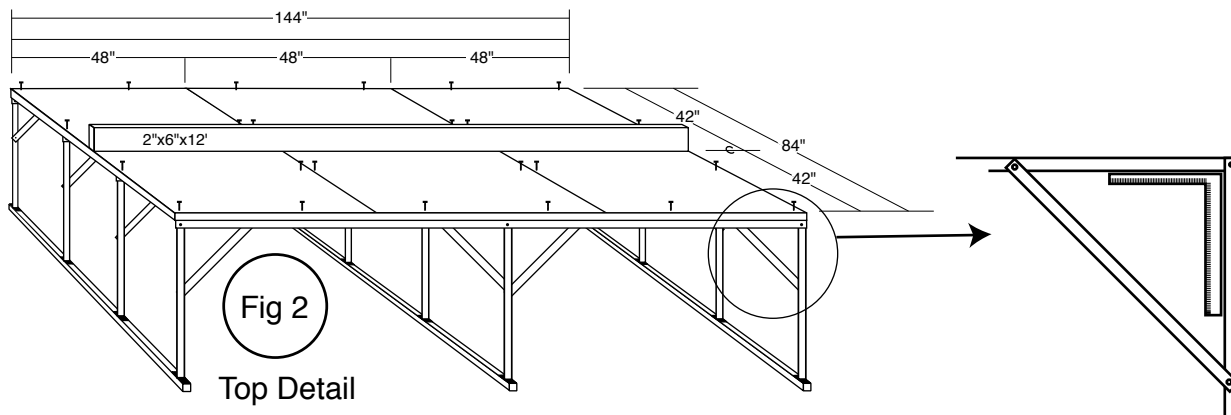

Fig 2
- 1) Cut (3) sheets of 3/4" tongue and groove plywood to 84" x 48". Install as per Fig 2 w/ screws that you must provide. (make sure screws are flush with top of plywood)
- 2) Screw in from bottom 2"x6" board as per Fig 2 with screws that you must provide.